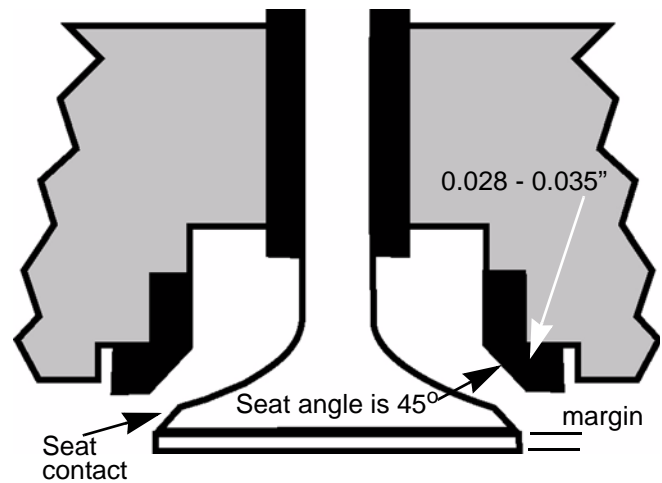

Figure 9.12
7. Inspect the valve seat. See Figure 9.12.